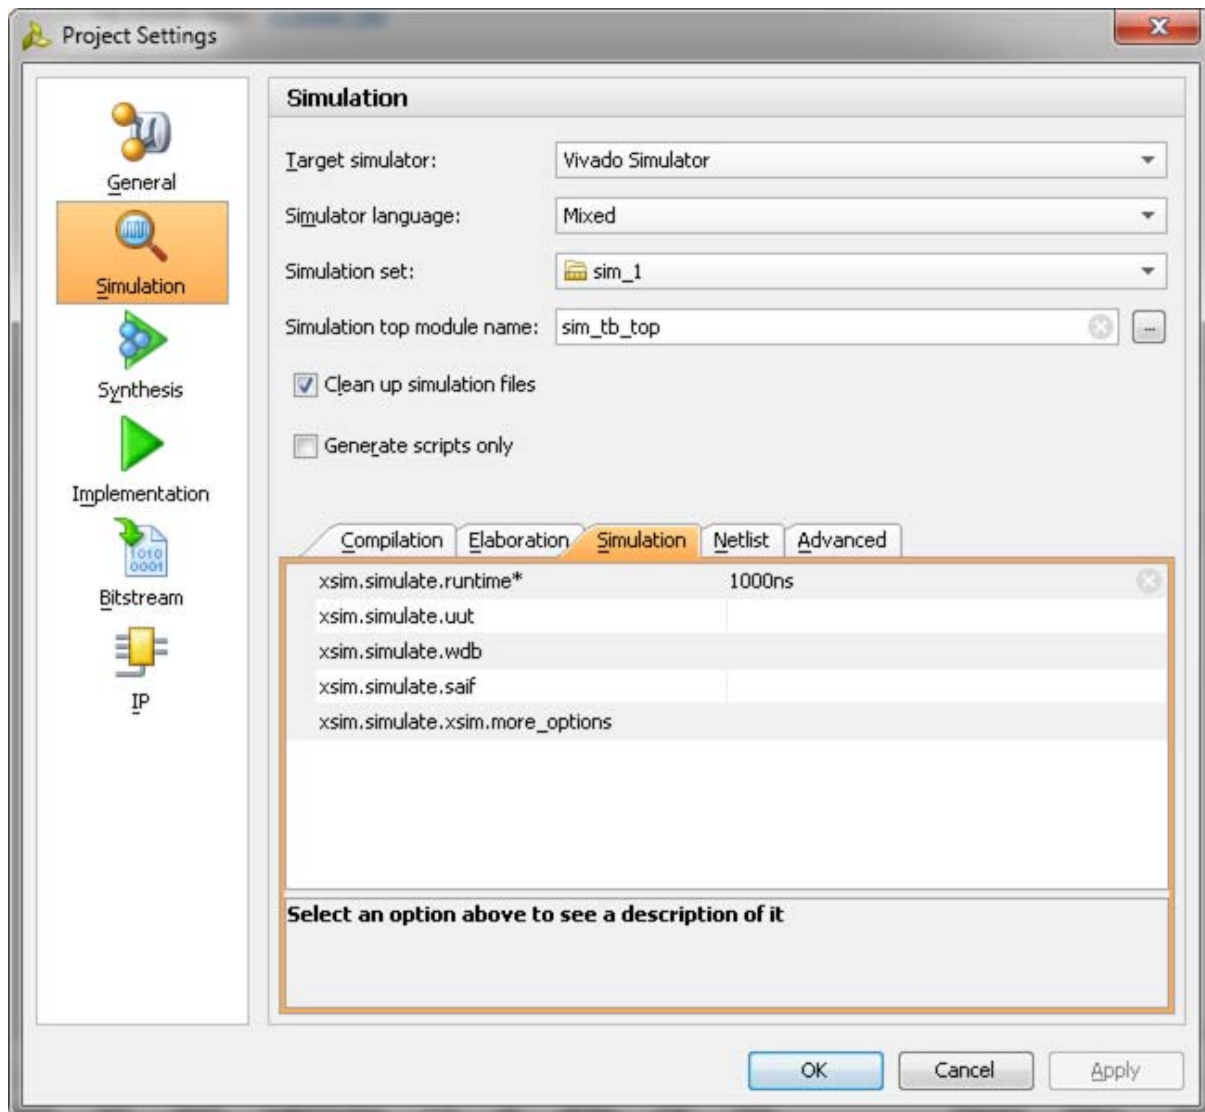

Figure 1-46: Simulation with Vivado Simulator
1. In the **Open IP Example Design** Vivado project, under **Flow Navigator**, select **Simulation Settings** (Figure 1-46).
2. Under the **Simulation** tab as shown in Figure 1-46, set the `xsim.simulate.runtime` as 1 ms (there are simulation RTL directives which stop the simulation after a certain period of time, which is less than 1 ms). Apply the settings and select **OK**.
- b. Under the **Simulation** tab, set the `modelsim.simulate.runtime` to 1 ms (there are simulation RTL directives which stop the simulation after certain period of time, which is less than 1 ms), set `modelsim.simulate.vsim.more_options` to `-novopt` as shown in Figure 1-46.